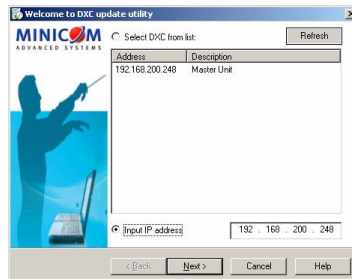

Figure 62 Welcome to DXC update utility
1. Select Start/Programs/DX Central Update/ DX Central Update or click the Desktop icon. The Welcome to DXC update utility box appears. See Figure 62.